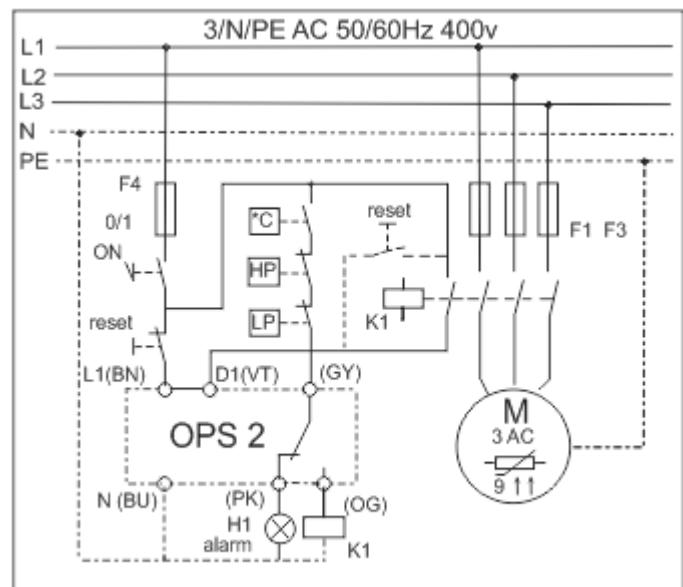

Figure 3
- Compressor Start: Oil pressure monitoring is activated once the supply voltage is applied to the operating recognition signal, which is applied to D1 (violet wire) via an auxiliary contactor or motor contactor (see wiring diagram figure 3). Following a compressor start, the OPSS allows for a 120 second oil pressure transition delay to allow the compressor to reach steady oil pressures. The differential pressure monitoring is activated after the expiration of the 120 second compressor starting transition time.
- 2.) The electrical connections for the OPSS electrical unit need to be carried out according to the proposal in the wiring diagram (see figure 3).